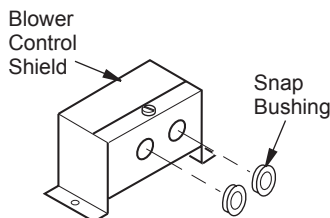

Figure 14 - Installing Snap Bushings
2. Install snap bushings found in hardware kit into both holes in rear of blower control shield (see Figure 14).